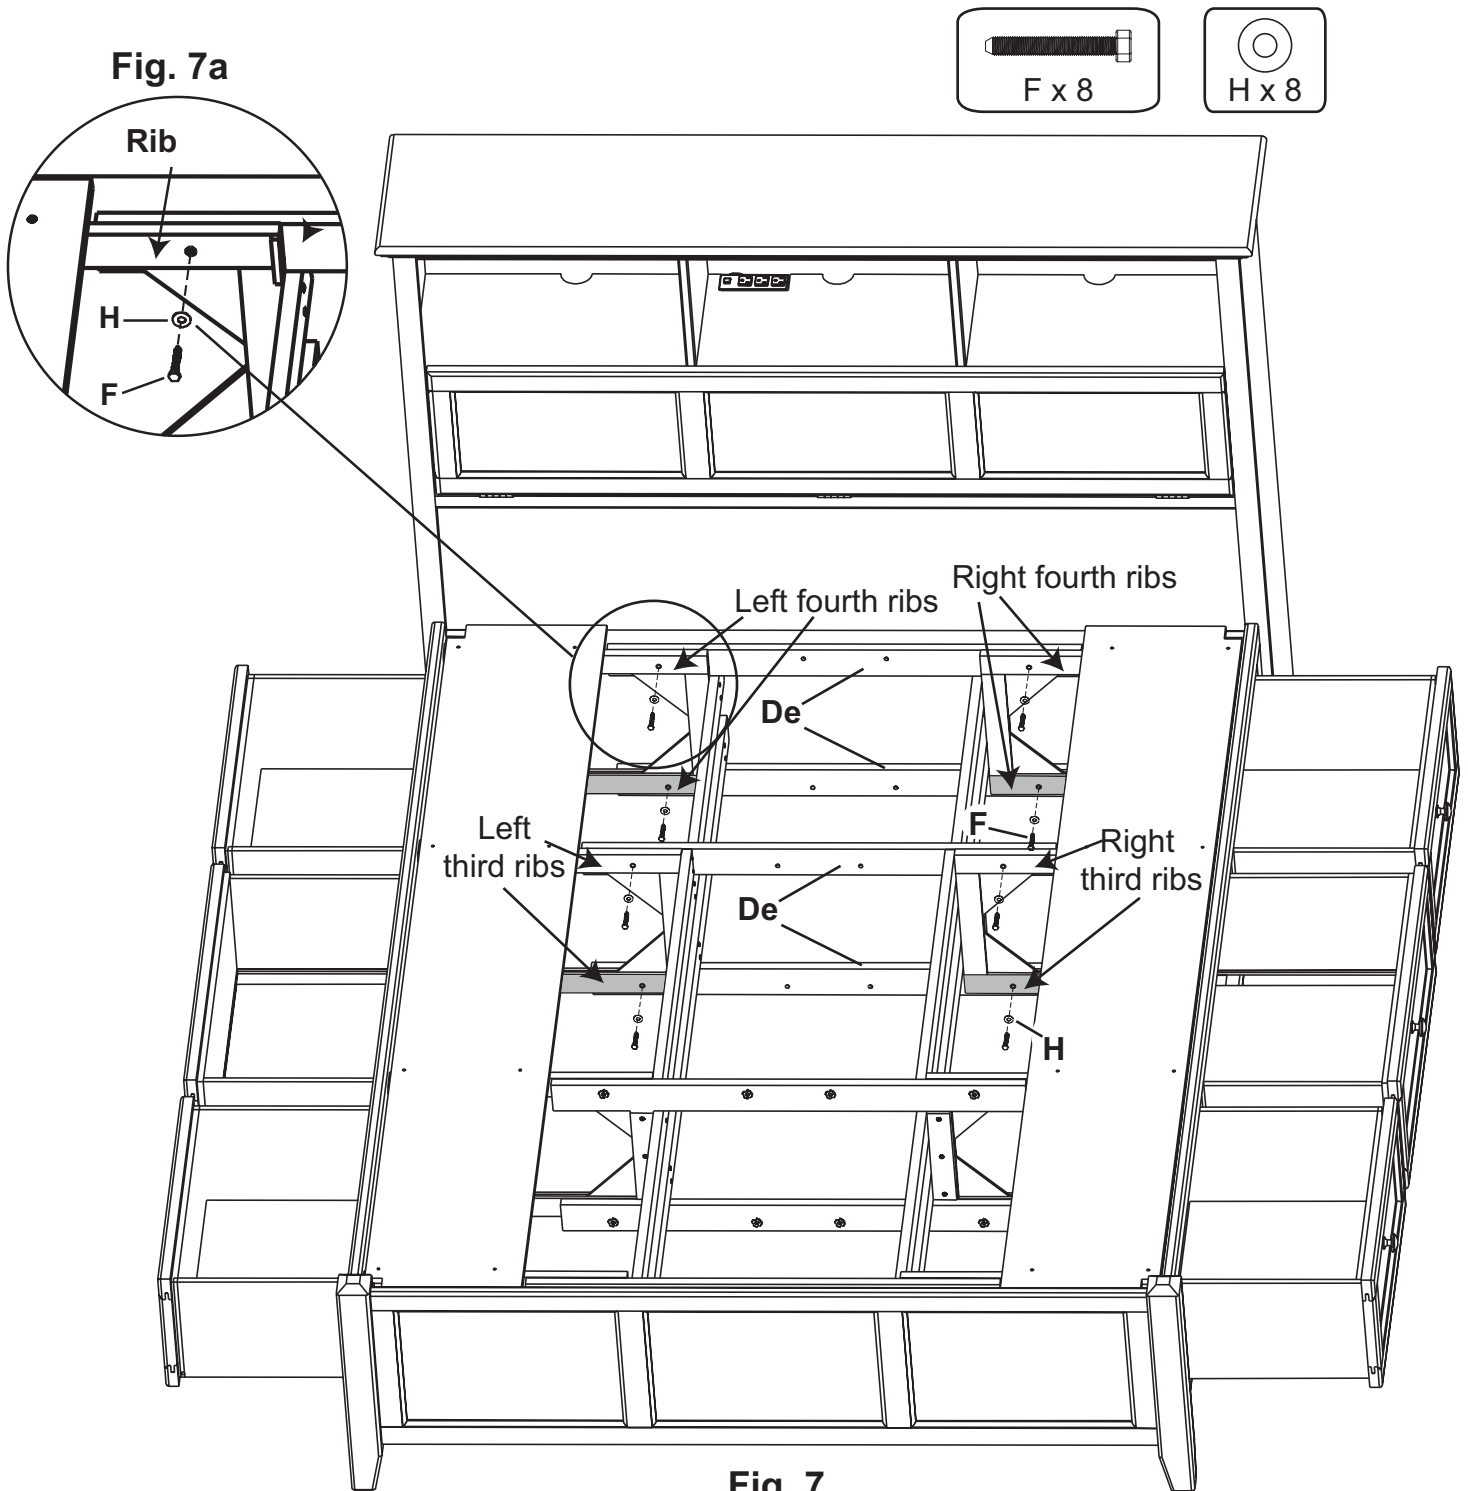

Fig. 7
7. Face the Headboard and stand in between the third and fourth ribs. Place a Trestle with T-Nuts (De) on the outside surfaces of the third upper left and right ribs so the t-nuts sit near the top. See Figures 7 and 7a. Line up the upper edges of the trestle and ribs so they are nearly flush. Insert two 1/4" x 1-3/4" Hex Bolts (F) and Washers (H) and tighten.
Place a Trestle with T-Nuts on the outside surface of the third left and right **lower** ribs so that the t-nuts sit near the bottom. Line up the bottom edges of the trestle and ribs so they are nearly flush. Insert two 1/4" x 1-3/4" Hex Bolts (F) and Washers (H) and and tighten. See Figures 7 and 7a.
7. Face the Headboard and stand in between the third and fourth braces. Place a Trestle with T-Nuts (De) on the outside surfaces of the third upper left and right braces so the t-nuts sit near the top. See Figures 7 and 7a. Line up the upper edges of the trestle and braces so they are nearly flush. Insert two 1/4" x 1-3/4" Hex Bolts (F) and Washers (H) and tighten.
Place a Trestle with T-Nuts on the outside surface of the third left and right **lower** braces so that the t-nuts sit near the bottom. Line up the bottom edges of the trestle and braces so they are nearly flush. Insert two 1/4" x 1-3/4" Hex Bolts (F) and Washers (H) and and tighten. See Figures 7 and 7a.